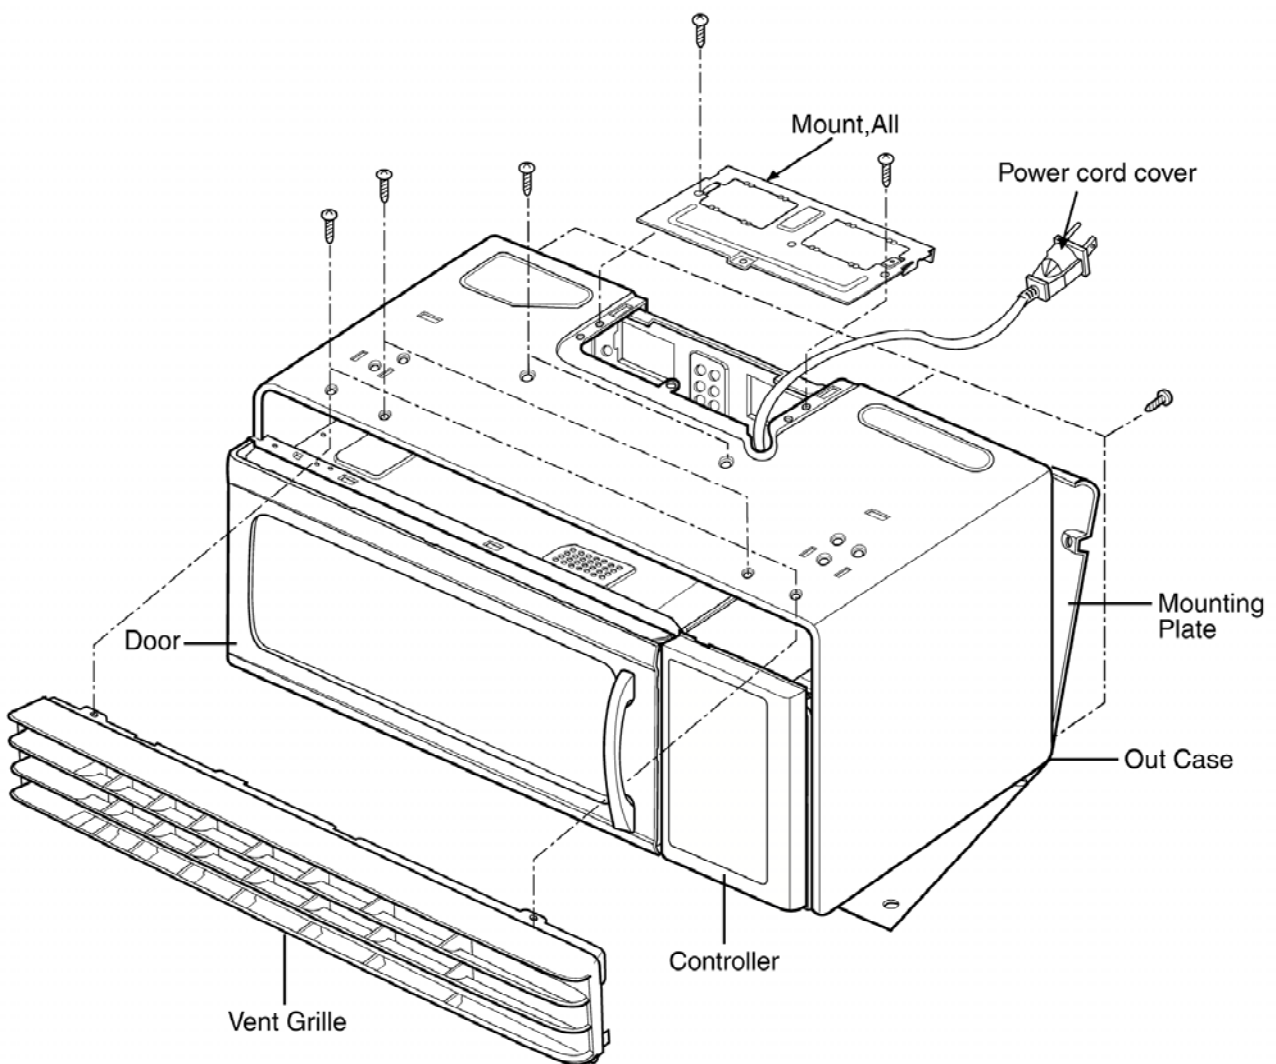

Figure 8
B. REMOVING THE OUTSIDE CASE (Figure 8)
- (1) Remove the vent grille by removing two screws securing it to the out case.
- (2) Remove two screws securing it to the air duct.
- (3) Remove the mounting plate by turning the screws (1 or 2 screws)securing it to the out case.
- (4) Remove two screws on the left central edge and one screw on the right central edge of Base plate. Remove the Mount, All from the out case by removing one screw securing it to the out case.
- (5) Remove six screws of the rear cavity.
- (6) Remove the outcase.